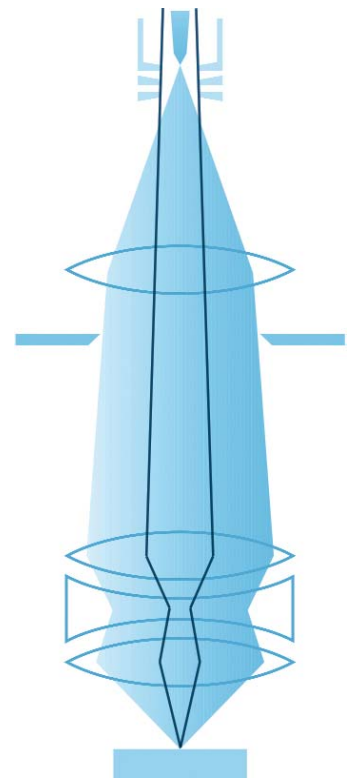

Fig. 2: GEMINI® High Current mode with virtual parallel beam: optimised EBSD.
- High Current, Depth of Field module with the virtual FE source moved to infinity (fig. 2) supplies a highly parallel beam with a high current density enabling improved lateral resolution (sub 10 nm), high angular resolution (0.25°) and fast detection times (100 points/sec).